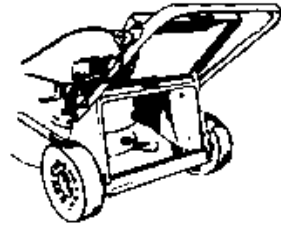

Figure 6 - Blade Change
3.5 Blade Change (Refer Fig. 6 and 7)
3. Lift the rear flap and prop open to give access to the blades. (Fig 6)
2. Raise the rear flap and prop open. (Fig. 6)
4. Loosen the gearbox retaining nut. (A)